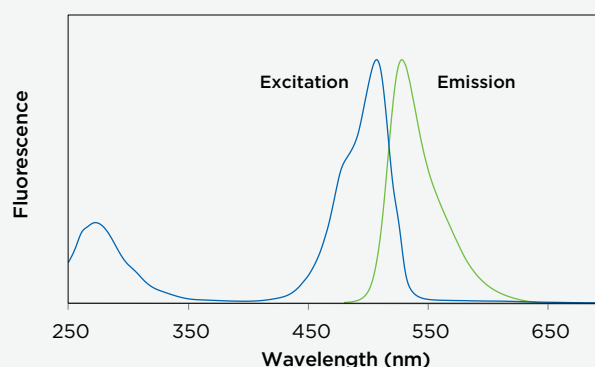

Figure 1. Excitation (left and emission (right) spectra of GelGreen® bound to dsDNA in TBE buffer.
GelGreen® is a sensitive, stable and environmentally safe green fluorescent nucleic acid dye specifically designed for gel staining. GelGreen® has UV absorption between 250 nm and 300 nm and a strong absorption peak centered around 500 nm (Figure 1).
- GelGreen® can be imaged with a gel reader with visible light excitation such as the blueBox S or blueBox Pro transilluminators, or a similar transilluminator, or a laser-based gel scanner using a long path green filter such as a SYBR® filter or GelStar® filter. See the emission spectra for GelGreen® for specific wavelengths (Figure 1).